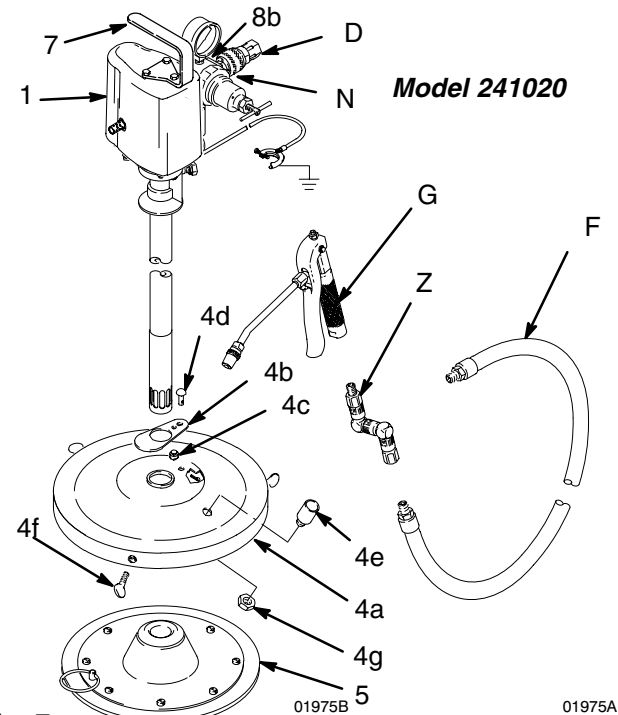

Fig. 7
1. See Fig. 7. Place the follow plate (5) on the surface of the grease.
4. Place the cover (4a) on the pail, and tighten the thumbscrews (4f). Install the handle (7) on the pump with three screws.
5. Connect the hose (F) to the pump fluid outlet. Assemble the swivel (Z) and gun (G) to the hose.
6. Connect the nipple (N) to the pump air inlet or air regulator (7b) inlet, whichever is applicable. Connect the quick-disconnect coupler (D) to the air supply hose.